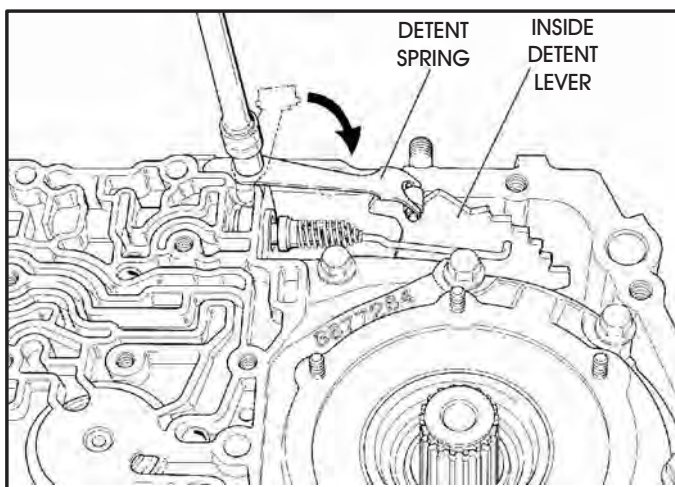

Figure 199
66. Swing the detent spring and roller over and on top of the inside detent lever (See Figure 199).